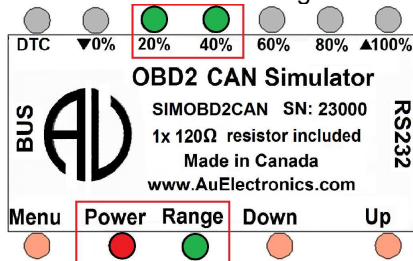

Figure 3-5
- If keep pressing **Up** button, the control step value will keep rising, 20% and 40% LED will be always on, as shown in Figure 3-5. It indicates the data range from 41% to 59%.